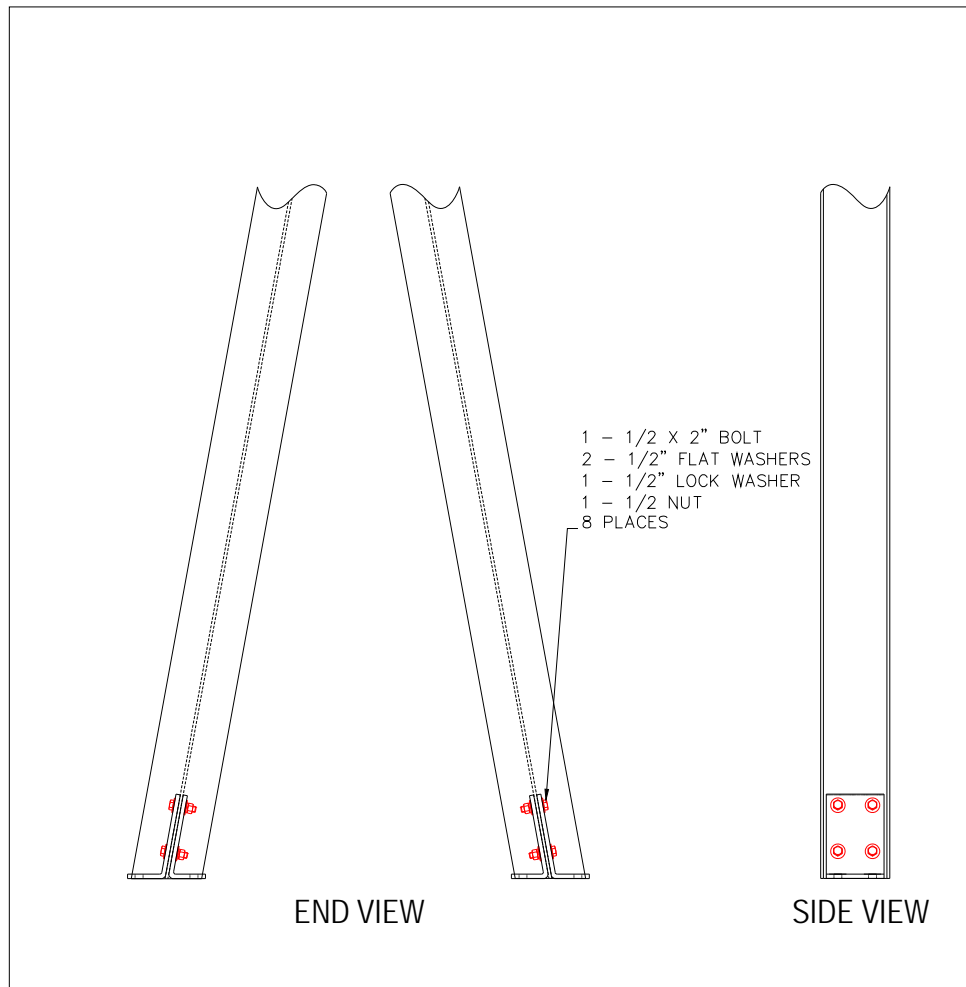

Figure 4-6 Assembly step 7
- (7) Loosely fasten an inside clip (Item 14, Table 2-1) and an outside clip (Item 15, Table 2-1) on each of the main legs (four places) using four 1/2" x 2" bolts. Refer to Figure 4-6.